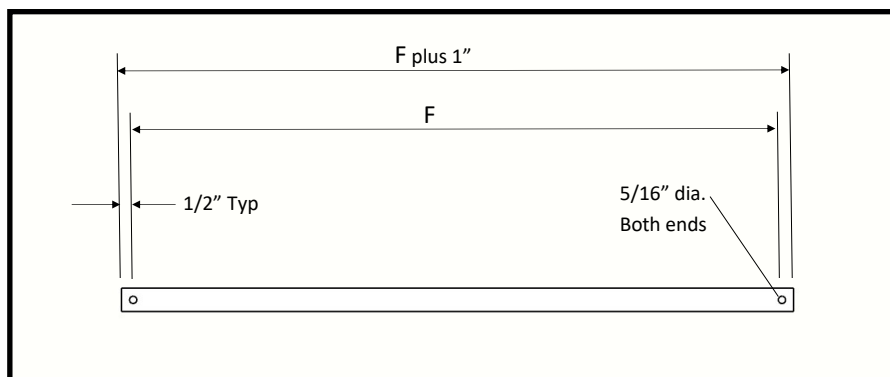

Fig 3
8. Using the Kicker Bars (#6) provided, cut to length and drill the holes as illustrated in fig 3 above.